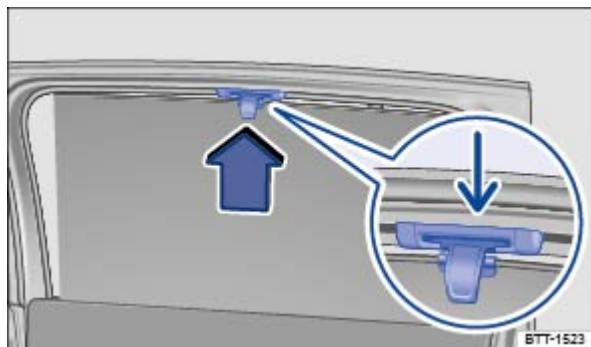

Fig. 101 Sunshade in the rear right window.
- Pull the sunshade all the way up by the projecting handle ⇒ Fig. 101 .
- Insert the handle into the corresponding mount ⇒ Fig. 101 (arrow). Make sure that both ends of the sunshade handle are safely hooked into the mount.